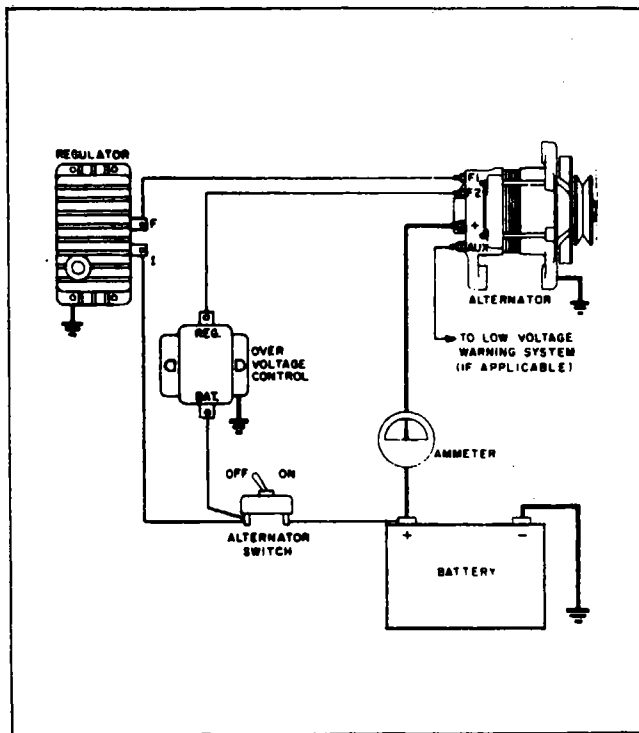

Figure 11-55. Application of Over-Voltage Control
- c. The relay contacts will remain open until the alternator switch is turned off. Figure 11-55 illustrates the overvoltage control connected in a typical Prestolite insulated field alternator.